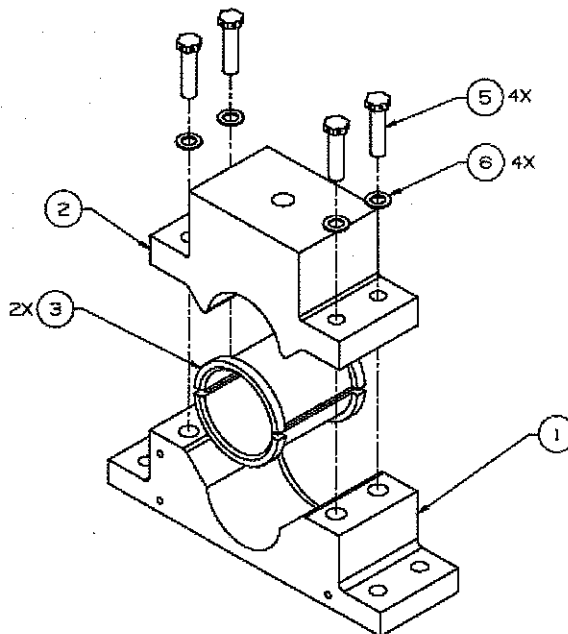

Figure 3
3. Cut the lock wire that secure the bolts, NAS1958C20H, item 5 in Figure 3. Repeat for all four Trunnion Block Assembly, SEG38117010-301 (GSE). Loosen the bolts, item 5, to relieve compression on sleeve bearing, item 3. The top of Trunnion Block Assembly should be free to move. Do not remove the bolts at this time.